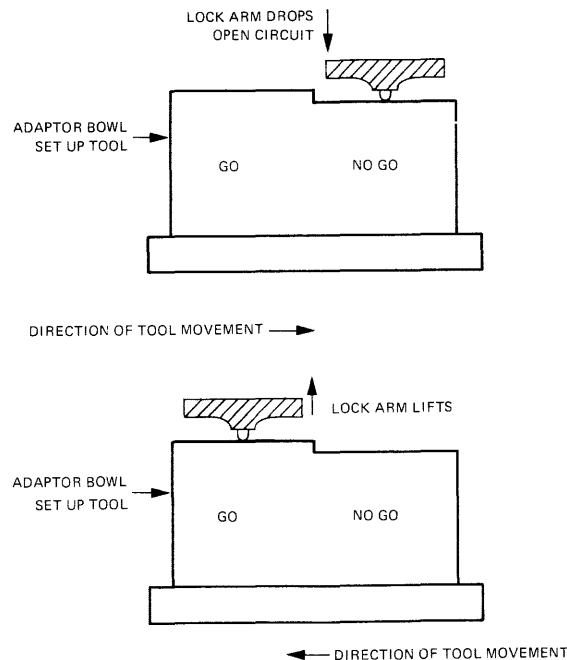

Figure 6-35. GO/NO GO Adjustment Tool, End View
- (5) Manually depress the solenoid plunger and rotate the lock arm to the locked position over the NO-GO position marked on the tool. See Figure 6-35. There should be no switch closure observed between pins 1 and 2.
- (6) Retract the lock arm and move the tool to the GO position.
- (7) Manually depress the solenoid plunger and rotate the lock arm to the locked position over the GO portion of the tool. Contact closure should be observed between pins 1 and 2.
- (8) Adjust the closure point, if required, by loosening the No. 2 machine screws securing the switch in place and sliding the switch body vertically until the previously established requirements are met. Remove the tool.
- (9) Reinstall P109 onto the Logic PCBA.
- (10) Return the Logic PCBA to the normal position.
- (11) Reinstall the dust cover and return the drive to the enclosure.